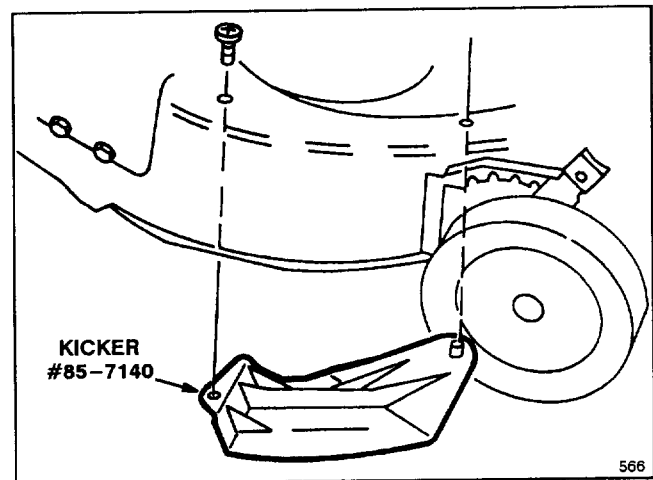

Figure 12
2. Position kicker #85-7140 firmly against underside of deck as shown in Figure 12. Align kicker holes with deck holes.